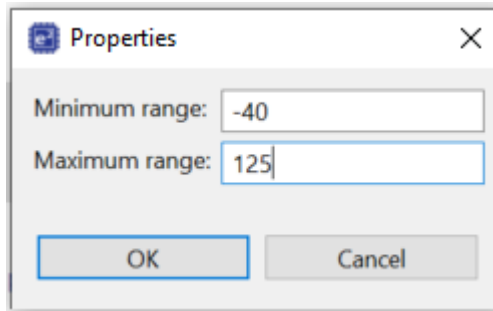

Figure 25. Gauge Minimum and Maximum Temperature
10. In the Properties window, enter **-40** for the temperature **Minimum range** and **125** for the temperature **Maximum range** (see Figure 25).